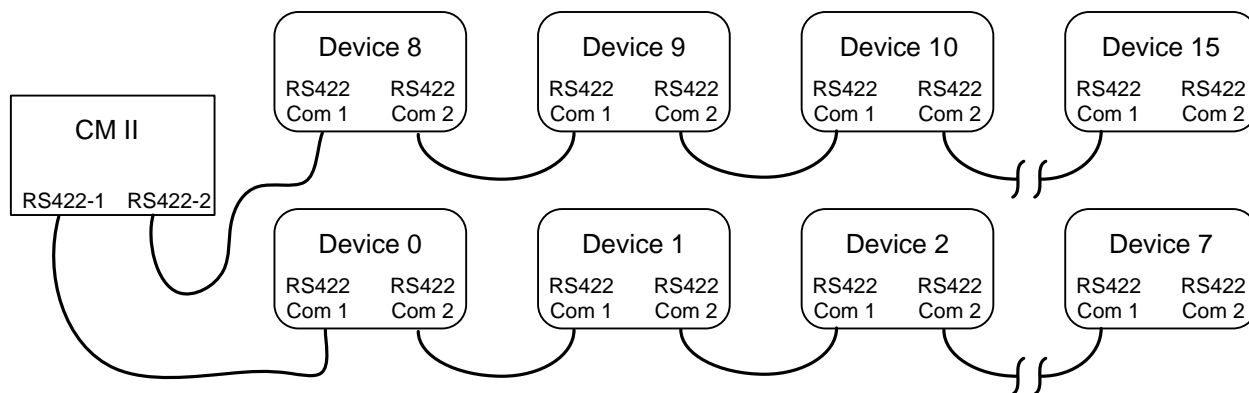

Figure 1 – Maximum Devices
When used in conjunction with other INTREPID Series II devices, a maximum of 16 devices can be connected to the communications ports of the CM II as shown in Figure 1. Eight (8) to each port or sixteen (16) on any one (1) port or any combination as long as it does not exceed sixteen (16) devices. The system can also be configured as Fault Tolerant.